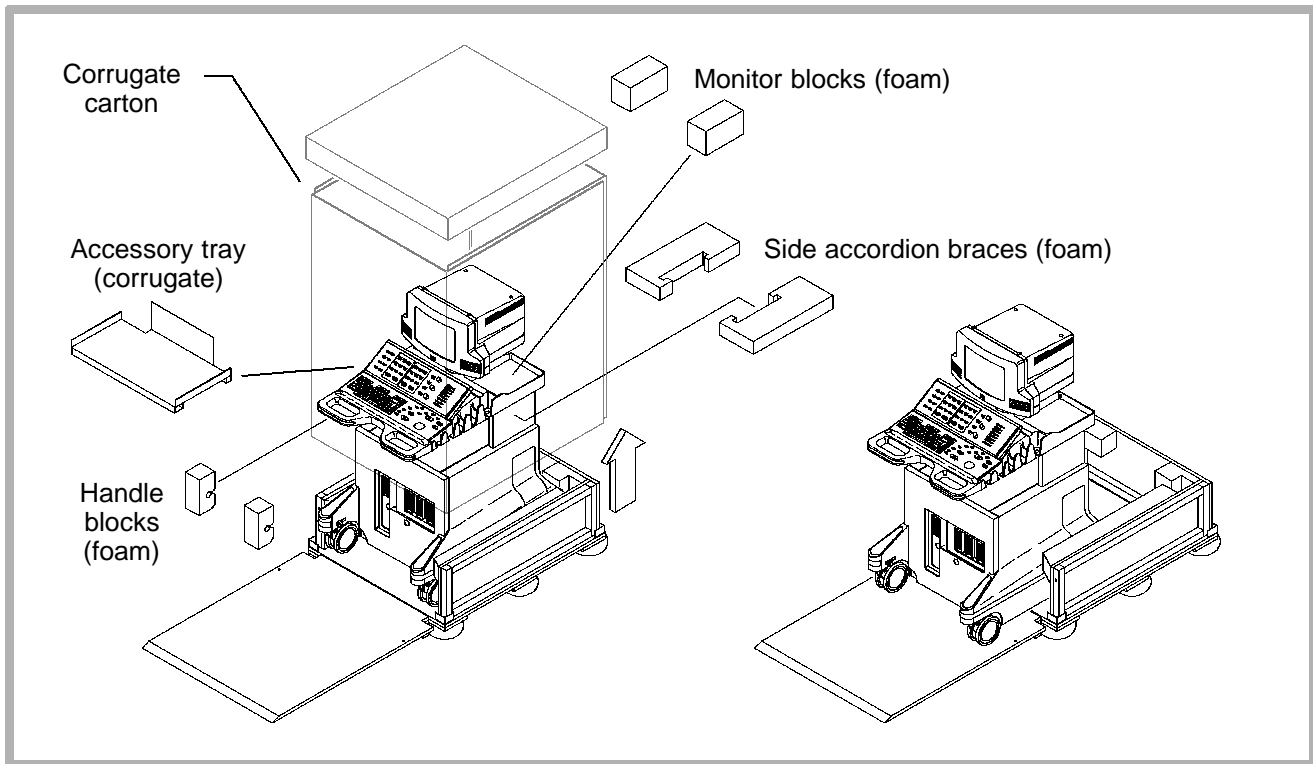

Figure 5-4. Corrugate Crate Unpacking Details
4. Remove any accessories placed on the corrugate tray in front of the monitor (**Figure 5-4**).